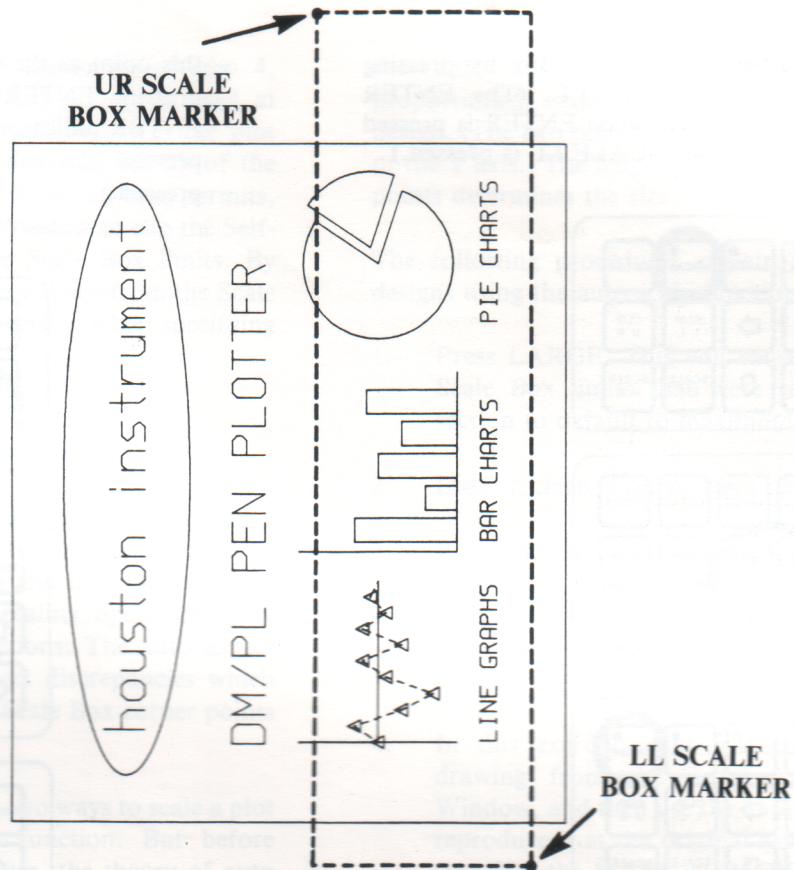

FIGURE 2-8
4. Because the Plotter was reset in step 2, the Plotter has maximum Window limits. This means that the Plotter will scale the entire page, which includes the Self-Test plot design, to the dimensions of the Scale Box. Just for fun, let's grossly exaggerate the aspect of the design with Scale Box limits so you'll see the full power and potential of this feature. Press **LOCAL**, and then use the **MANUAL MOVEMENT KEYS** to move the Pen Holder to the location specified by the lower left Scale Box marker shown in Figure 2-8. After the Pen Holder is positioned, register this point as the
Next, use the **MANUAL MOVEMENT KEYS** to move the Pen Holder to the location specified by the upper right Scale Box marker shown in Figure 2-8. After the Pen Holder is positioned, register